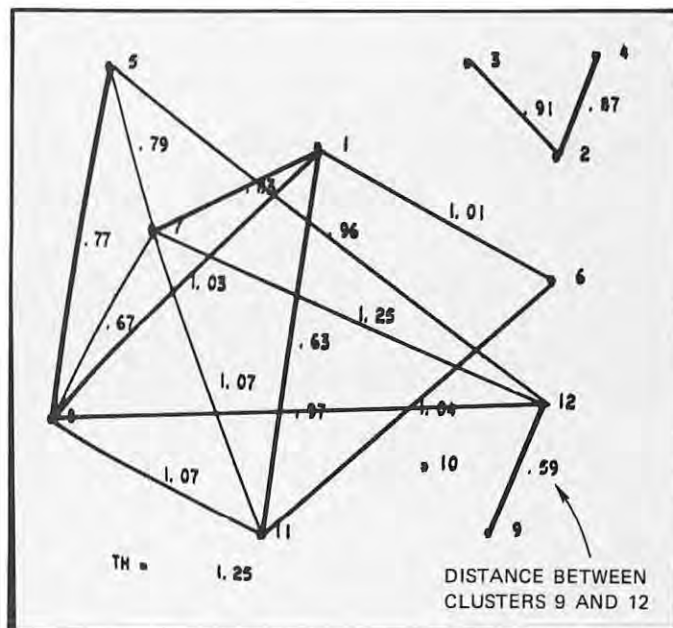

FIGURE 5: View of a two-CRT display through the nested components
- (1) The number of patterns in each cluster and their sequence numbers.
- (2) The components of each cluster center and the standard deviations along each component or dimension.
- (3) Various distances, such as a distance matrix that gives distances between all pairs of cluster centers. This distance matrix can be displayed graphically by a non-geometric link-node plot, as shown in Fig. 5. This represents, on a flat surface, multivariate data points. The clusters or nodes may be joined by links, depending on a distance threshold that the operator can vary. The links and nodes can be moved around on the screen, using the mouse, to allow investigation of the nature of the network and its adjacency properties.